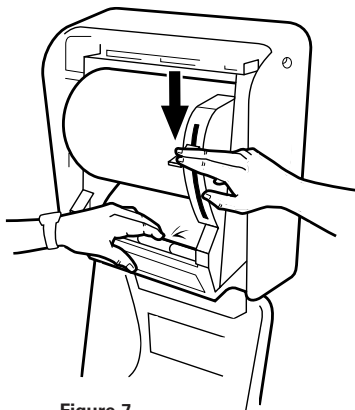

Figure 7
2. Tuck the paper between the wood and rubber roller and proceed to pump the dispenser lever to feed the paper. See Figure 7.